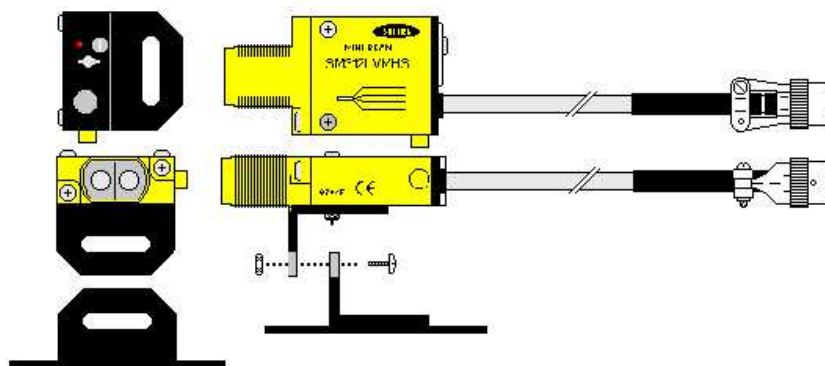

Figure 1
2. Assemble the Phototach and Phototach Mount from the Propeller Balance Kit as necessary. (See the diagram, Figure 1. below).